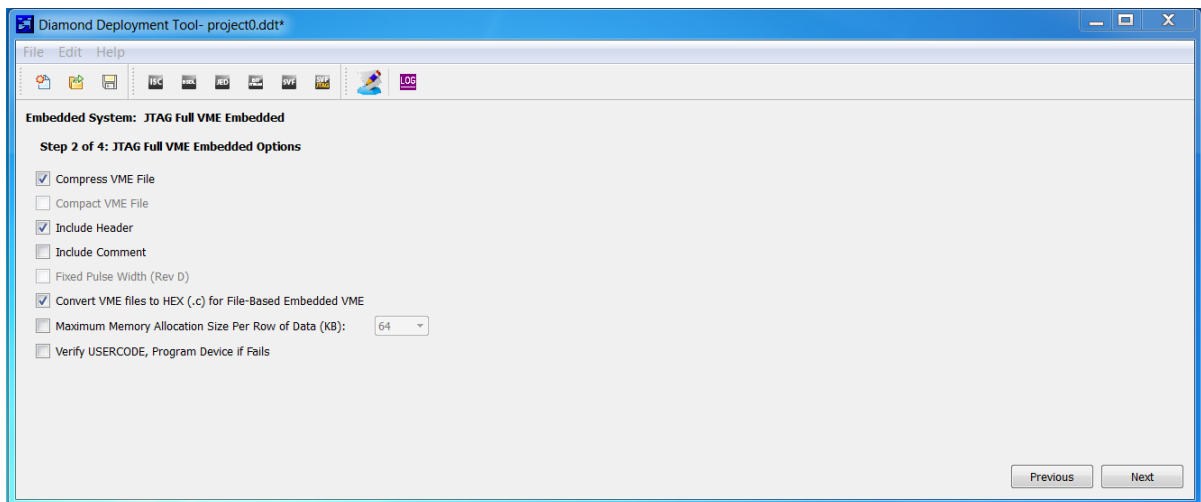

Figure 7.3. Step 2 of 4: JTAG Full VME Embedded Options
4. In **Step 2 of 4: JTAG Full VME Embedded Options**, shown in Figure 7.3, select **Convert VME files to HEX (.c)** for **File-Based Embedded VME** and click **Next**.